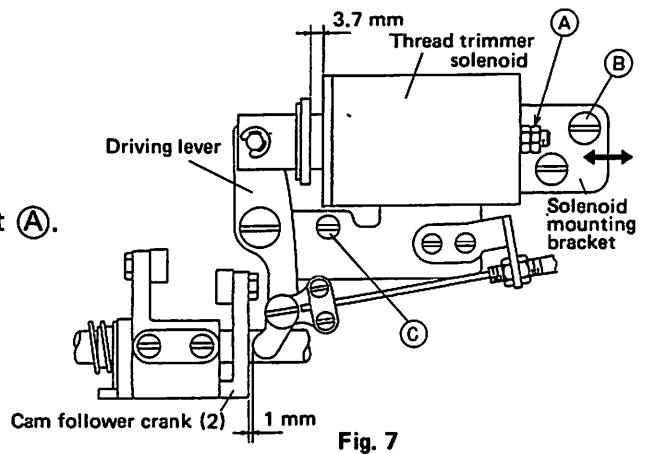
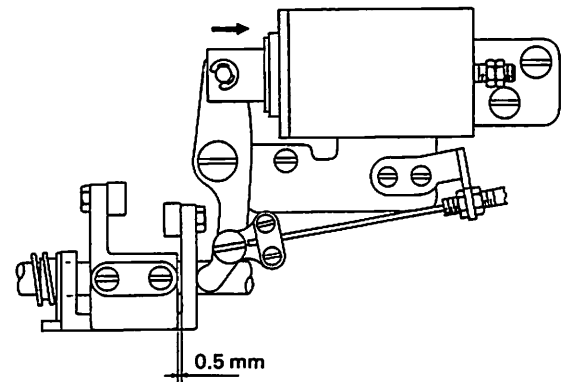

Fig. 7
Fig. 8
(2) Installation of unit
- ① Install the unit with the screws (B) and (C) shown in Fig. 7.
- ② Install the unit so that approximately 1 mm is provided between the driving lever and cam follower crank (2) with the stopper nut (A) in contact with the solenoid.
- ③ When the solenoid is energized under this condition, clearance of 0.5 mm is provided between the cam follower cranks (1) and (2) as shown in Fig. 8. This is the standard installation status. Make adjustment by moving the solenoid mounting bracket in the arrow direction in Fig. 7.